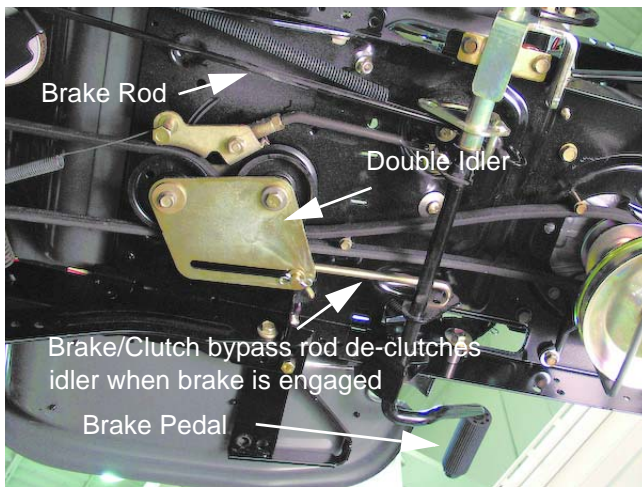

Figure 5.3
- 3a. The brake linkage applies the brakes and disengages the drive belt. Confirm that both parts of the linkage are moving properly. See Figure 5.3.